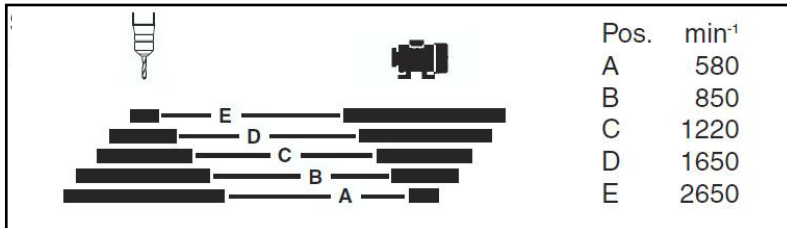

Fig.7
1. Remove the screw (16) in order to open the V-belt cover (7).
2. Slacken the tightening screw (20) and push the motor (8) in the direction of the machine head.
4. Refer to the table for the recommended speeds for different drill bit materials (Fig. 7/10).
5. Tighten the V-belt by pushing the motor (8) back from the machine head (6). Screw the tightening screw (16) back down again. The tension is properly set when the V-belt flexes in the middle by approx. 1 cm when pressed.
6. Close the V-belt cover and screw down using the screw (16). The V-belt cover (7) must always be locked tight, as the machine is equipped with a safety switch that only allows